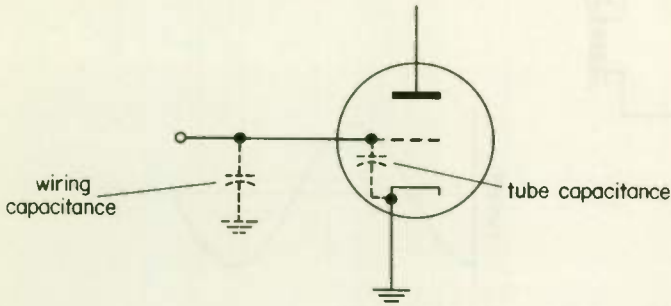

Fig. 20
3. The input capacitance to a certain vacuum tube is 10 pf. Additional capacitance introduced by the circuit wiring appears in parallel with the input tube capacitance and amounts to 30-pf as in Fig. 20. At a frequency of 20 mc, the total reactance contributed by the tube and wiring is _____.